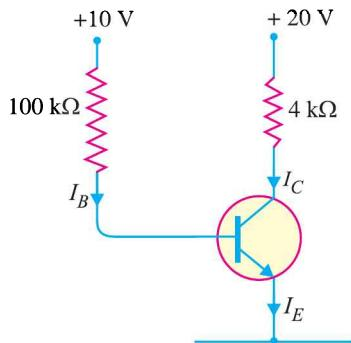

Fig. 9.48
2. Fig. 9.48 shows biasing with base resistor method. Determine the operating point. Assume the transistor to be of silicon and take  $\beta = 100$ . [  $I_C = 0.93\text{ mA}$ ,  $V_{CE} = 17.3\text{ V}$  ]